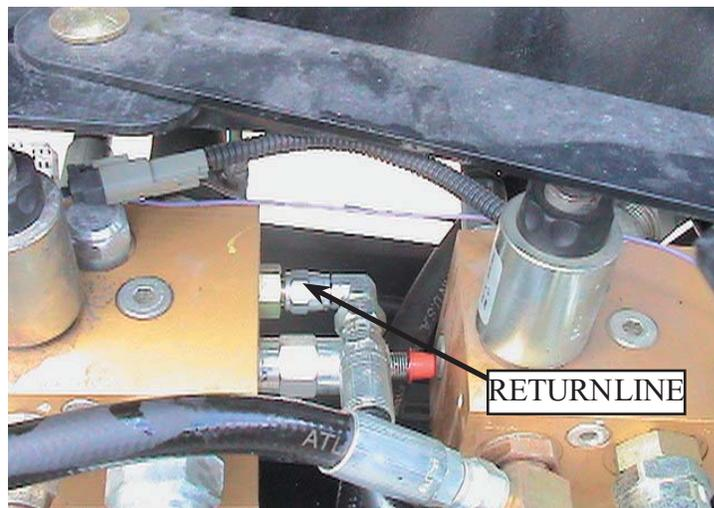

Figure 2.6 - Return line hook up
Refer to *Figures 2.6* for this step.
1. The return line connects to the M100 Draper drive valve block as shown in *figure 2.6*. Refer to the Hydraulic Diagram on *page 12* for correct fitting size.